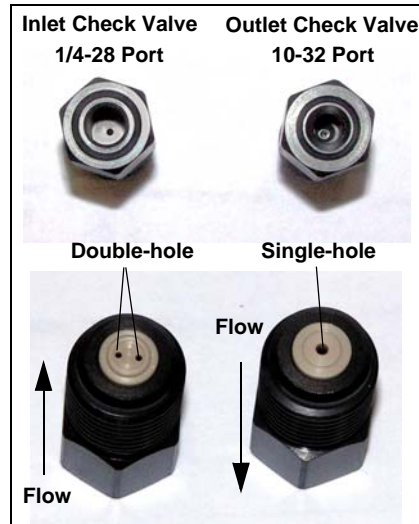

Figure 4. Inlet and Outlet Check Valve Housings
**NOTE** The *inlet* check valve assembly housing has a 1/4-28 port. The *outlet* check valve assembly housing has a 10-32 port (see Figure 4).
- Place a new cartridge (P/N 045994) in the *inlet* check valve housing with the double-hole end of the cartridge visible. Place a new cartridge in the *outlet* housing with the single-hole end visible (see Figure 4).